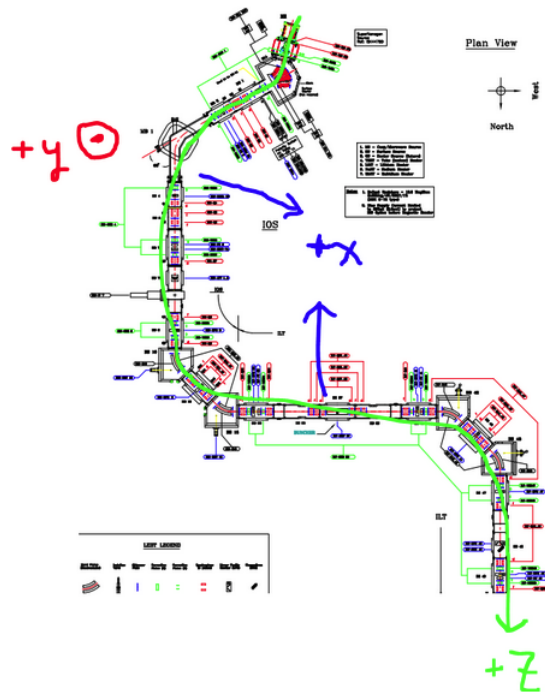
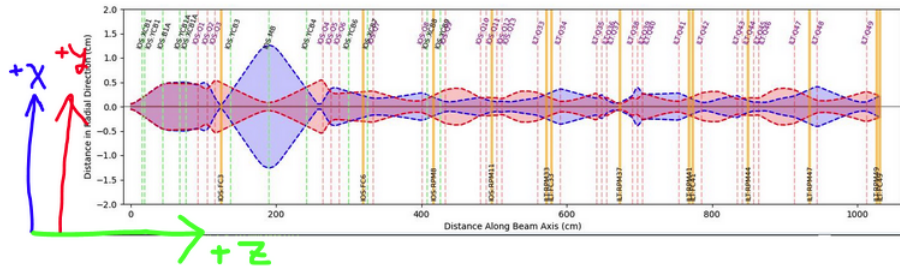

Figure 33: OLIS coordinate system.
Figure 34: OLIS coordinate system.
The coordinate system, that the TRANSOPTR simulation uses is shown in Figure 33 and Figure 34. The convention is
- Positive  $y$  is up (out of the page in Figure 33)